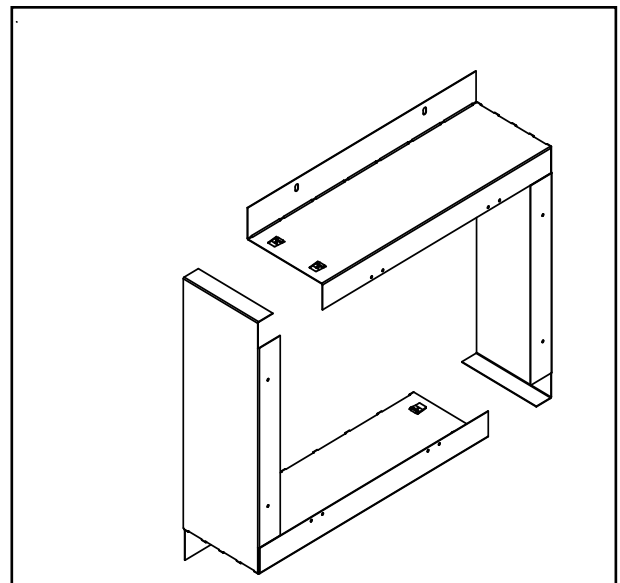

Figure 3.18 Bend BEK Sections
11. Assemble the PVLP-BEK kit. Bend the two sections of the PVLP-BEK kit as shown in Figure 3.18.